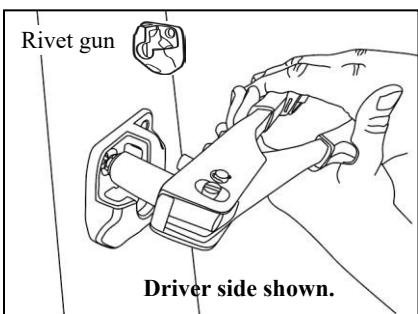

Fig. 1-7
(7) Using the rivet gun or handheld rivet tool, and the shoulder spacer, secure the three rivets (Fig. 1-7).
- Figure 1-7 shows the handheld rivet tool no shoulder spacer.